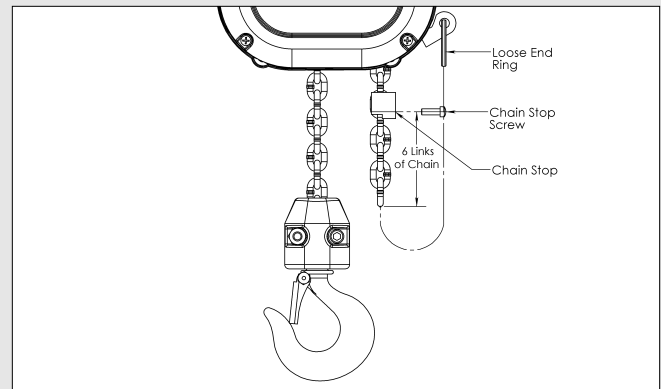

Figure 13B
4. Jog the "UP" push button while pulling on the free end of wire until the chain comes out of the hoist. Remove the wire and attach the chain stop as shown in Figure 13B. On units with chain container, place chain stop and loose end of chain in chain container. Attach chain container to chain guide.